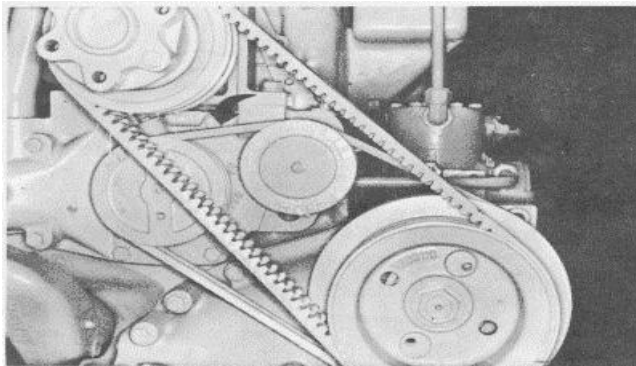

Fig. 2-4, (N11974). Water pump with idler
1. Loosen the capscrews and lockwashers or locknut securing the idler pulley to the bracket or water pump. Fig. 2-4.